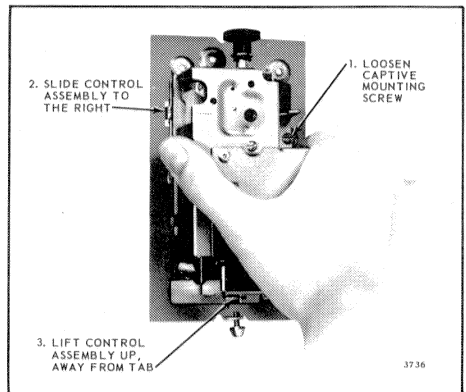

Fig. 2—Mounting the controller on the backplate.
2. Remove the mounting plate from the controller assembly as shown in Fig. 2.
2. Attach the H600A to the mounting plate by slipping it under the tabs (Fig. 2) and tightening the captive mounting screw.